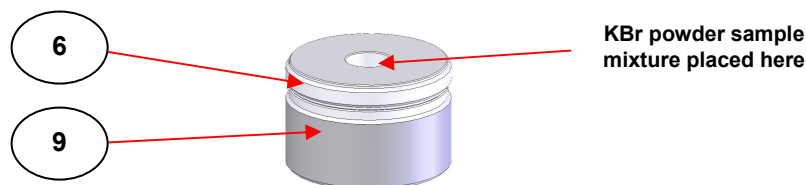

Fig 2. 7mm Pellet Die Ring Holder (Body) on Bottom Anvil
To make a 7mm diameter KBr pellet, a suitable quantity of KBr powder alone or a mixture of a solid sample homogeneously distributed within KBr powder is placed within the hole of the pellet ring holder (6) when placed on the bottom anvil (9). (See Fig 2.) The central hole is filled with a quantity of sample mixture up to the top surface level of the pellet ring holder (6).